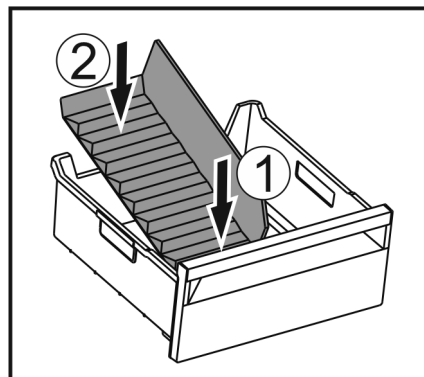

Fig. 177
- ▶ Insert the front part of the ice compartment divider. Fig. 177 (1)
- ▶ Lower the rear part of the ice compartment divider to the drawer bottom. Fig. 177 (2)